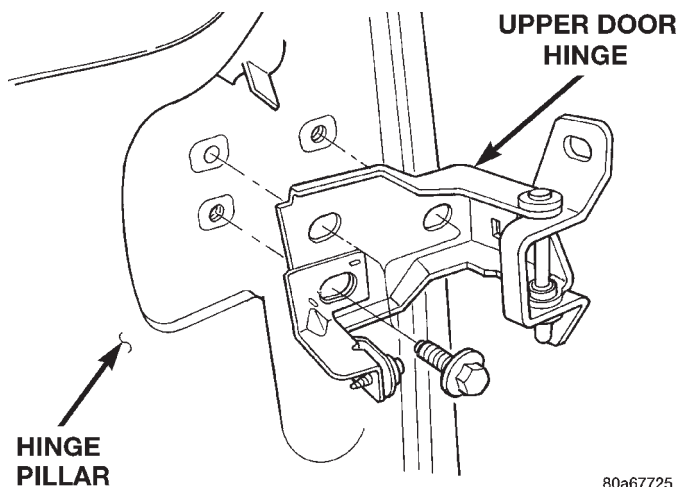

Fig. 24 Front Door Upper Hinge
- (1) Remove front door.
- (2) Mark location of hinge on hinge pillar.
- (3) Remove bolts holding upper hinge to hinge pillar (Fig. 24).